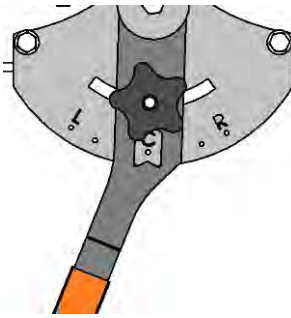

FIGURE 15.1
- 1) To Calibrate the Offset Control Handle, place the handle to "C" Center position and lock in place as shown in **FIGURE 15.1**